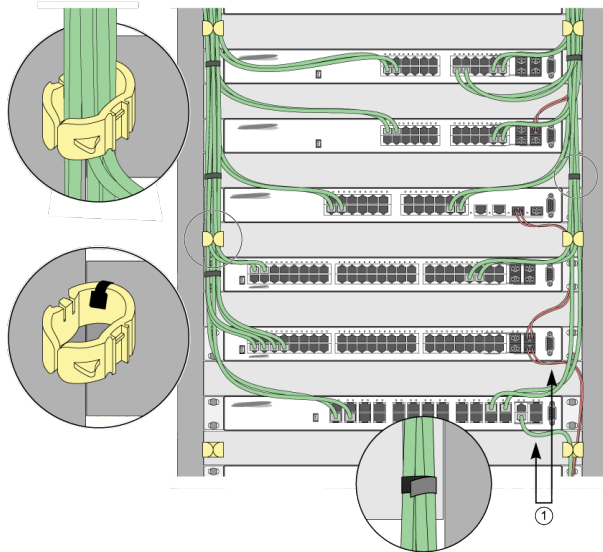

Figure 6: Properly Installed and Bundled Cable
- Provide enough slack, approximately 5 to 7.5 cm (2 to 3 in), to provide proper strain relief as shown in Figure 6 on page 34.
- When installing a patch panel using twisted pair wiring, untwist no more than 2.5 cm (1 in) of the cable to avoid radio frequency (RF) interference.